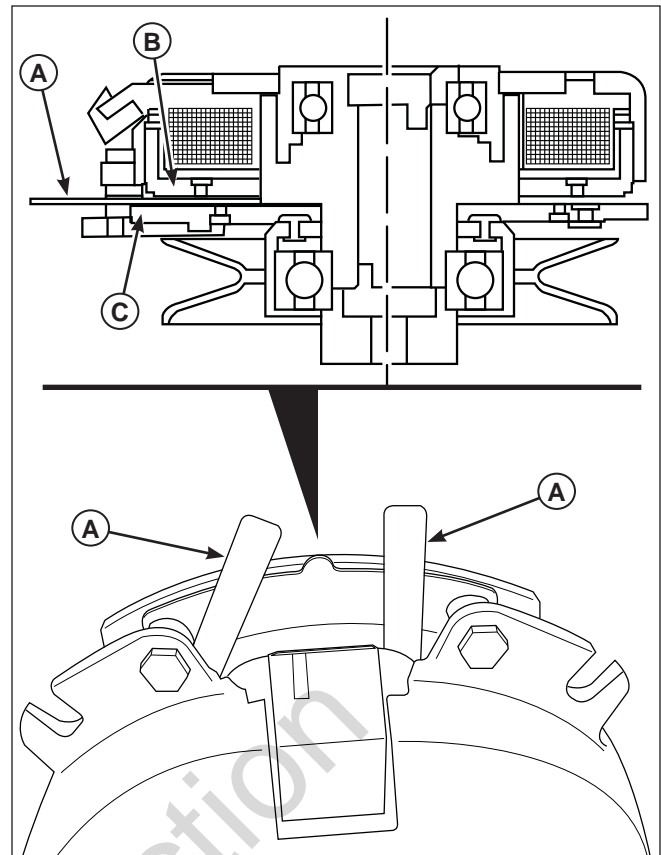

Figure 52. Adjust PTO Clutch
2. Using needle nose pliers, take hold of the tab and remove the re-gap shim (C).
4. Using a .010" thick feeler gauge (A, Figure 52), verify that the gap is present between the rotor and armature face on both sides of the brake pole as shown.